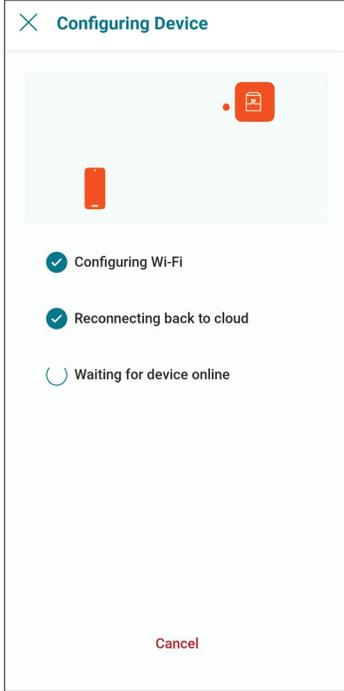

Figure 101. Configuring Device
9. Raymote app will provide the Wi-Fi credentials to your unit. This process may take a few seconds. See Figure 101.